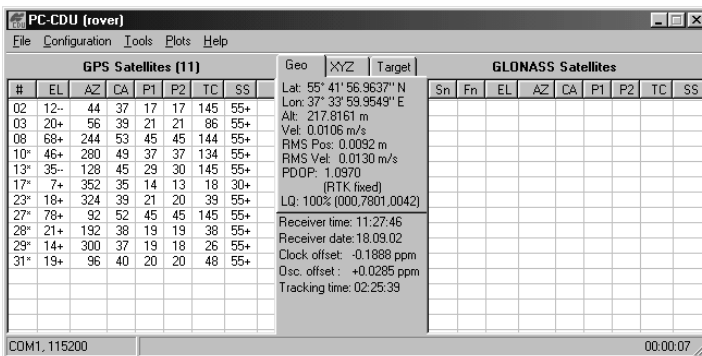

Figure 3-13. PC-CDU Main Screen
9. On the main screen (Figure 3-13), check the *LQ* field to ensure the receiver obtains differential corrections. Usually, the receiver will start to output the coordinates of the antenna’s phase center along with the solution type within 10–30 seconds. However, spread spectrum radios may take as long as 60 seconds to synchronize.